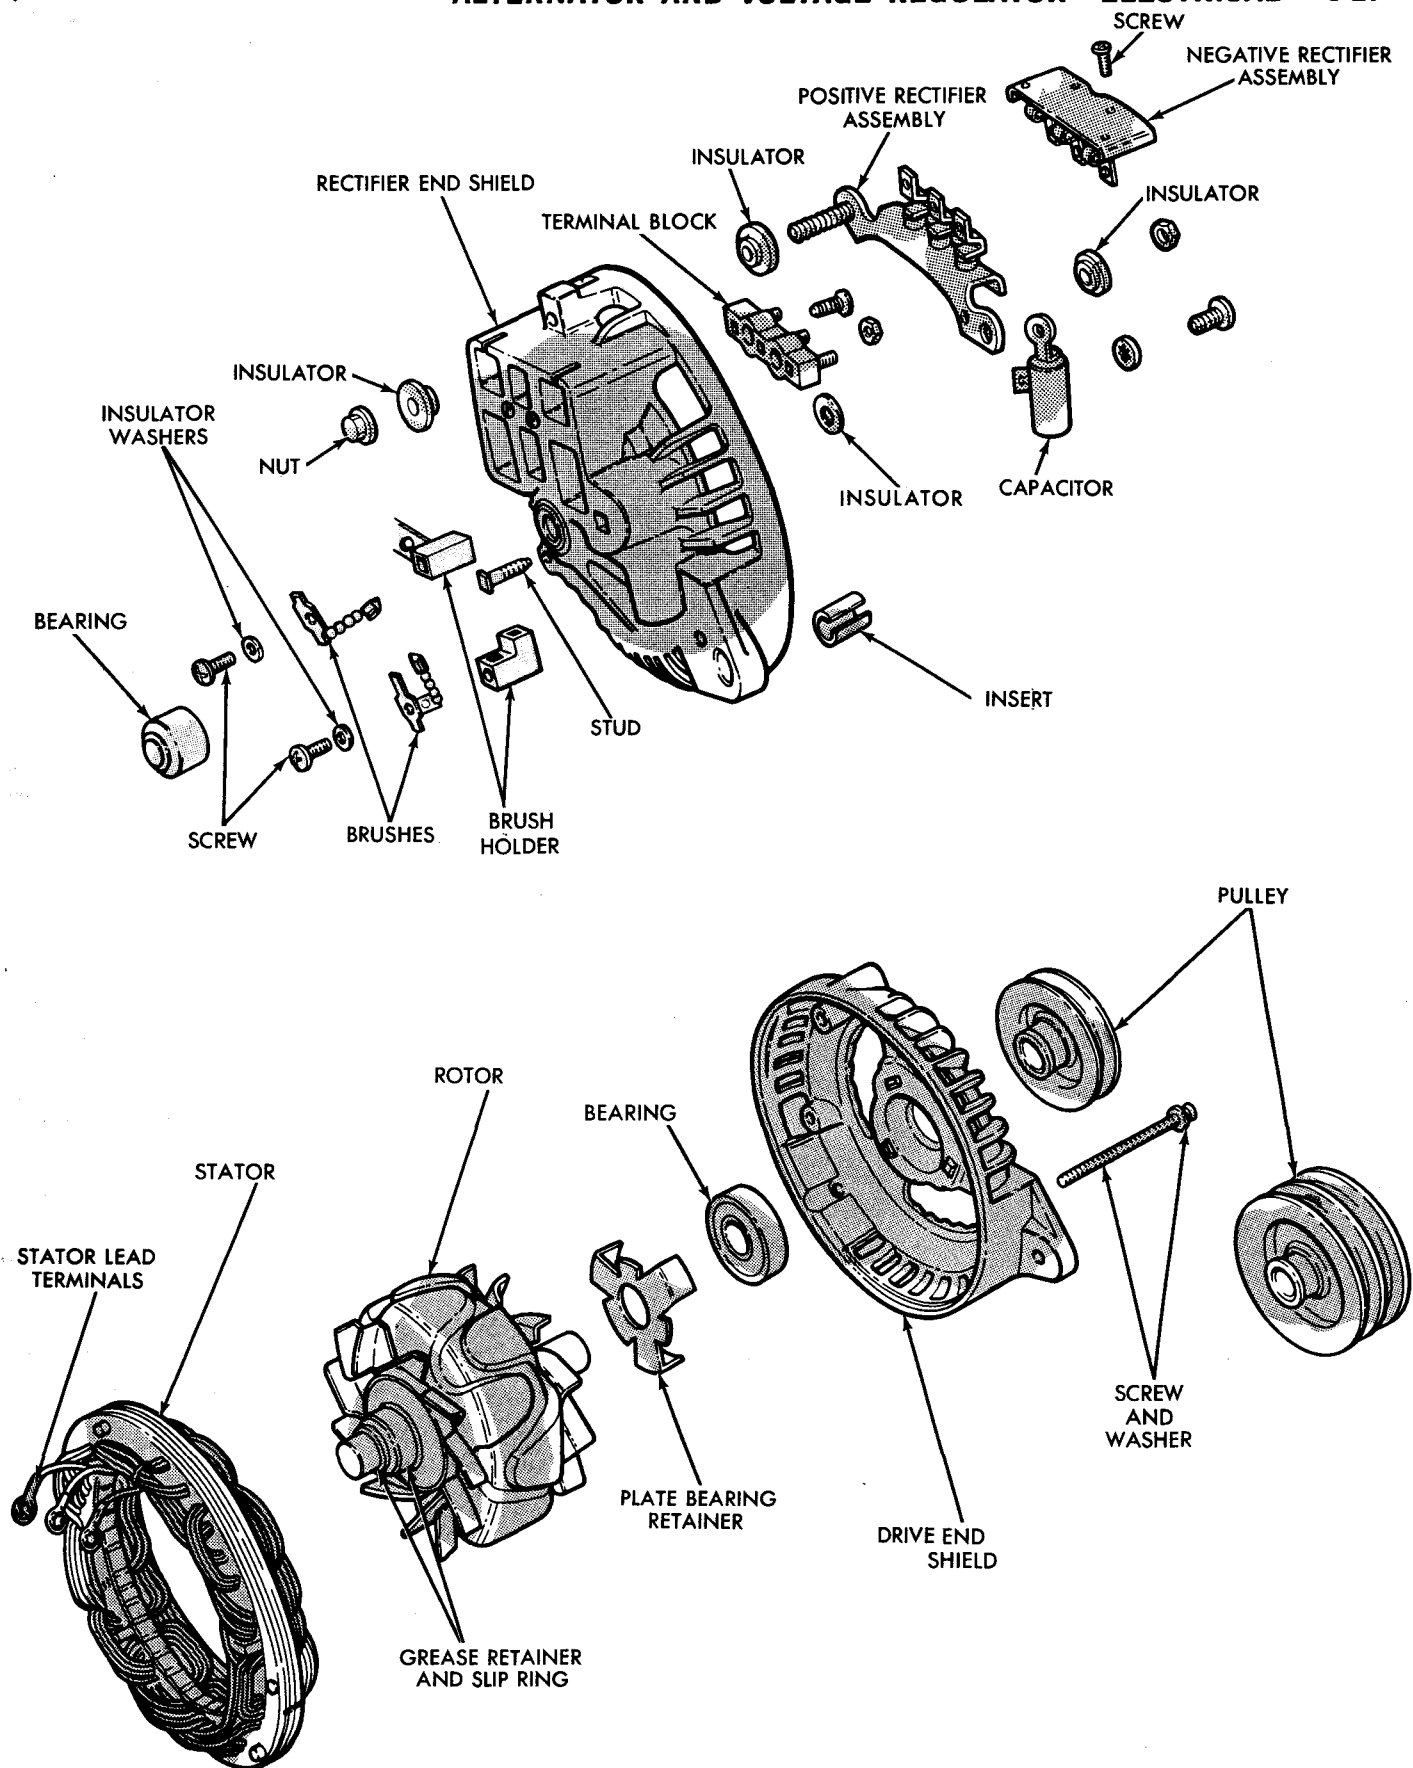

Fig. 1—Alternator (Exploded View)
The alternator (Figs. 1 and 2) has six (6) built-in silicon rectifiers, that convert AC current into DC current. Current at the "output" terminal is DC.